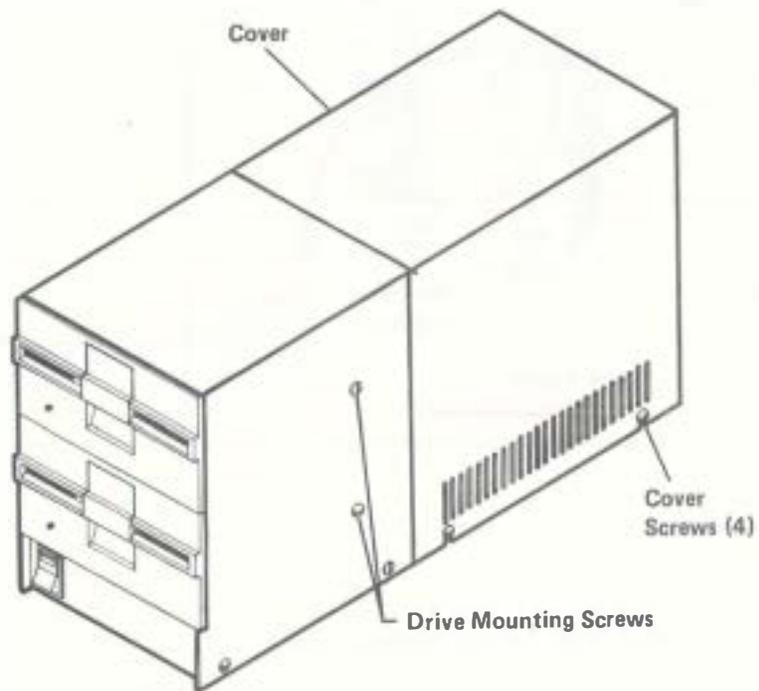

Figure 5-23. 5 1/4" Diskette Drive Assembly
4. Remove the four screws securing the diskette drive assembly's cover. Remove the cover. See Figure 5-23.
6. Remove the two screws securing the diskette drive to the housing. See Figure 5-23.
2. Secure the diskette drive to the housing with the two screws. See Figure 5-23.
5. Place the cover on the diskette drive assembly. Secure the cover with the four screws. See Figure 5-23.